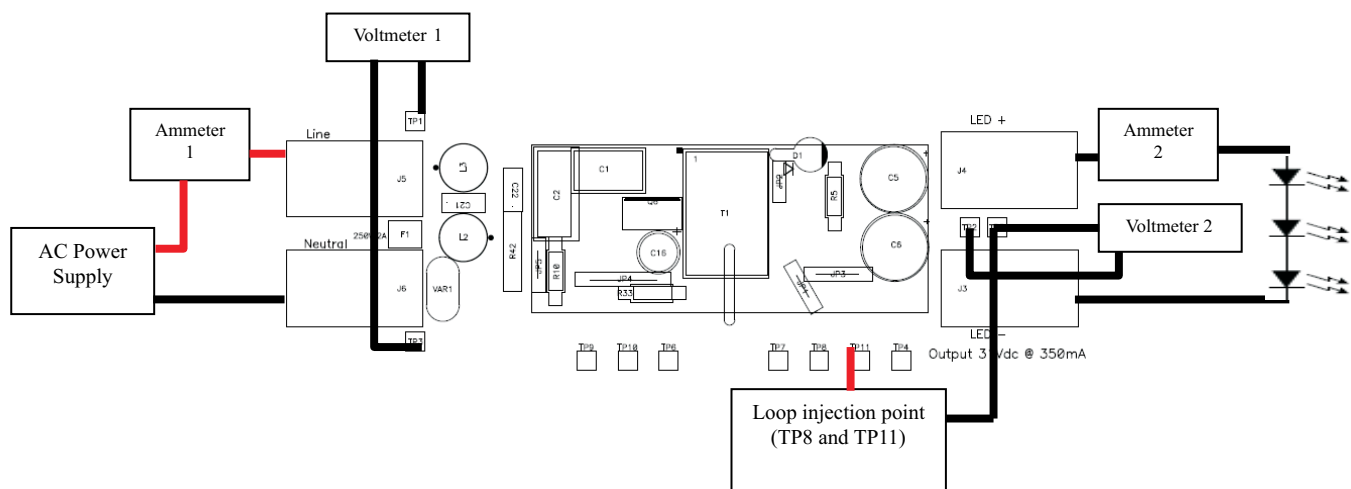

Figure 2. Recommended Test Setup
1. Connect EVM per Figure 2 above. An external LED load must be used to start up the EVM.
1. Set up the EVM per Figure 2.